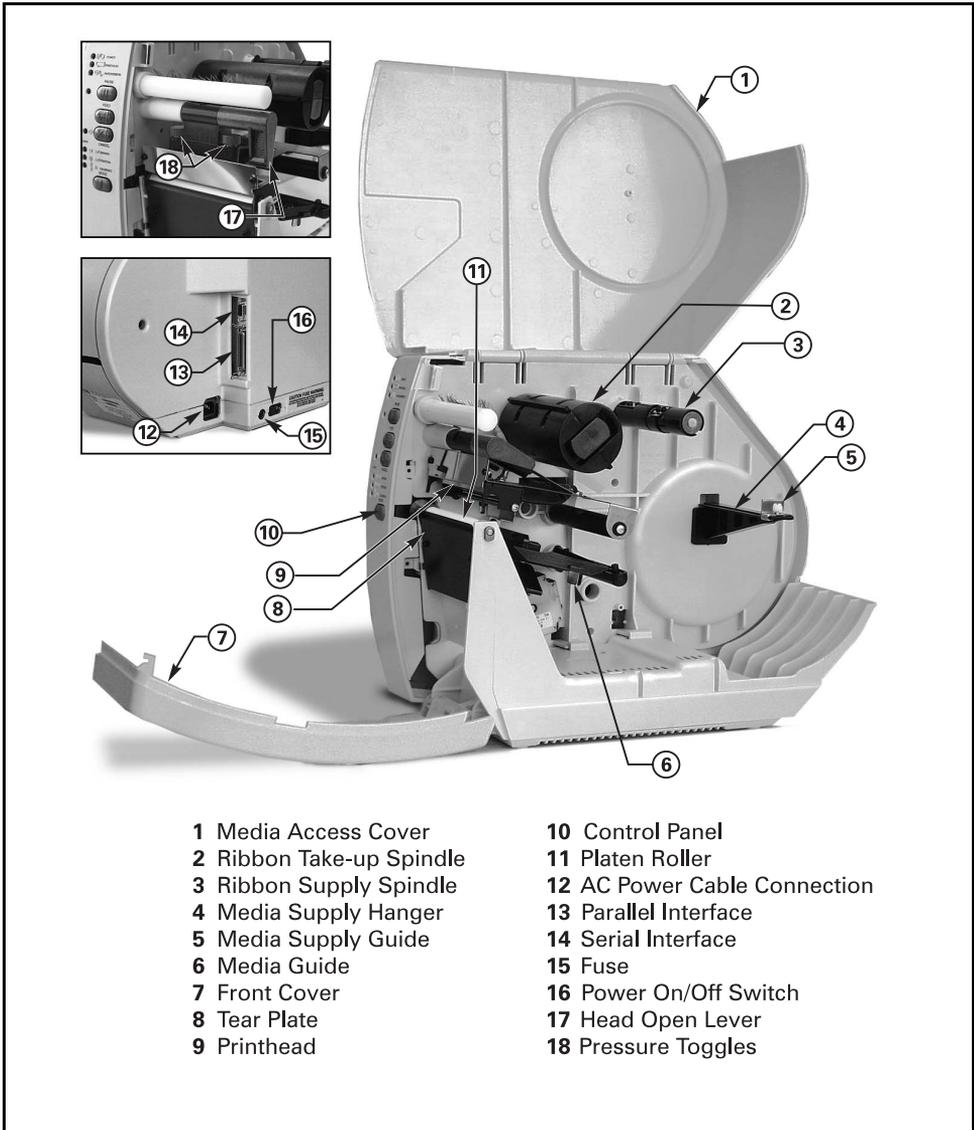

Figure 4. Printer Components
- Raise the media access cover (refer to Figure 4 on page 5) and inspect the media compartment for damage.